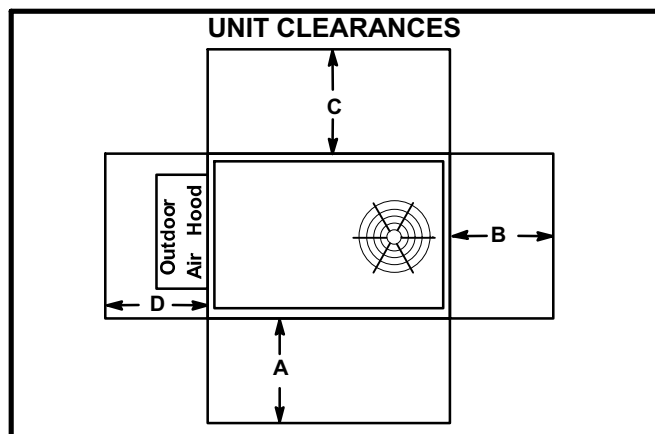

FIGURE 1
The KHA unit is ETL/CSA certified as a heat pump with cooling and with or without auxiliary electric heat for non-residential use only at the clearances to combustible materials as listed on the unit nameplate and in figure 1.
- 2- Specified installation clearances must be maintained when installing units. Refer to figure 1.